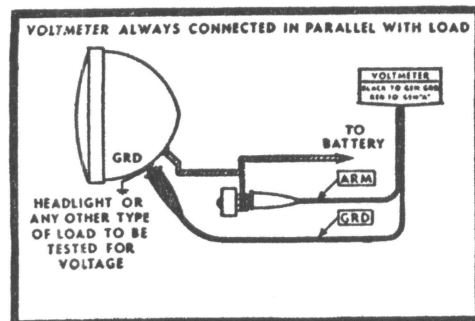

Fig. 13
6. Use VOLTMETER leads to measure VOLTAGE making connections always PARALLEL to the circuit to be tested. Fig. 13.